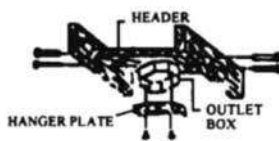

FIG.1
1. Using two screws fasten hanger plate or J hook to ceiling outlet box as shown in Fig. 1.